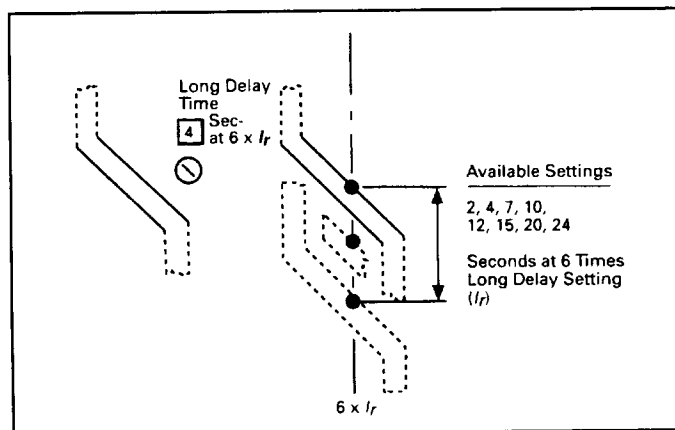

Fig. 8.2 Long Delay Time Settings
There are eight (8) available Long Delay Time Settings, as illustrated in Fig. 8.2, ranging from 2 to 24 seconds. These settings are the total clearing times in seconds, when the current value equals six (6) times  $I_r$ . The (LS) Time-Current Curve applicable for your circuit breaker gives complete details. (See Section 5.)